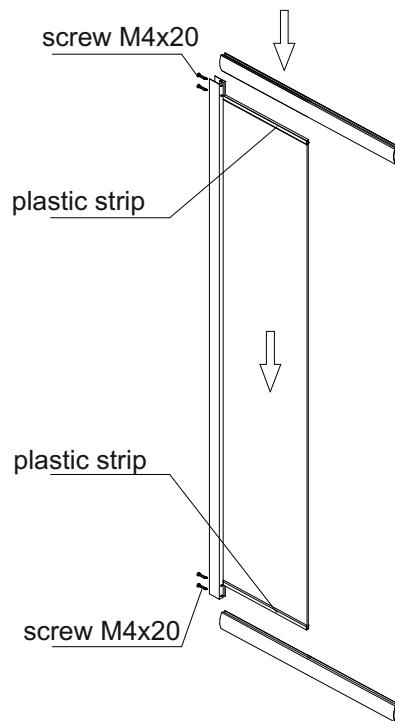

Fig. 4
4) Use the M4x16 screws(4) to connect the bending rail(2) and fixing door(5). As Fig. 4